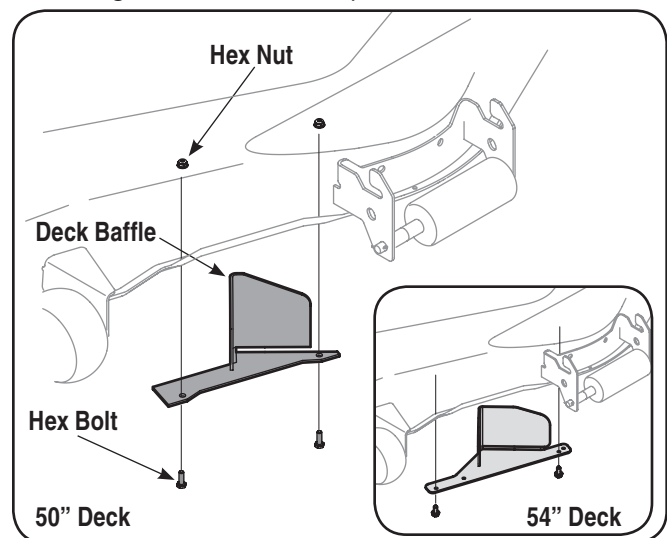

Figure 4-17
2. Install the front deck baffle using the hardware pack 689-00163 included with this bagger kit. See Fig. 4-17.